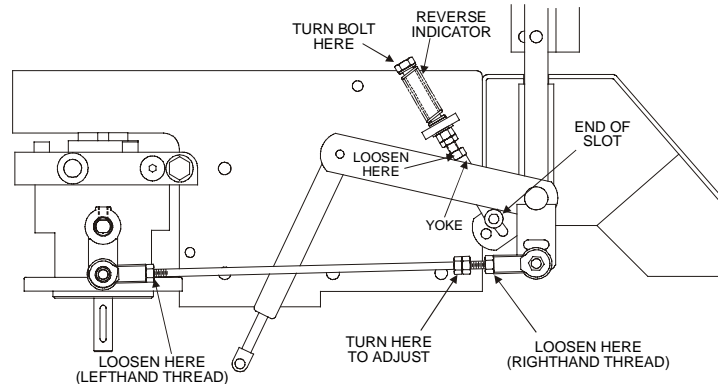

FIG. 10
- c) Begin with either the left or right motion control lever. Move lever to the neutral position and pull lever back until the clevis pin (on arm below pivot shaft) contacts the end of the slot (just beginning to put pressure on spring), See Fig 10.
- Loosen lock nuts from the ball joints on the two rods which connect the motion control assemblies to the pump control arms (See Fig 10).
Adjust pump control rod length by rotating the double nuts on the rod in the appropriate direction until the wheels slightly creep in reverse. (See Fig 10). Move the motion control lever to the reverse position and while applying slight pressure to the lever, allow the reverse indicator spring to bring the levers back to neutral.